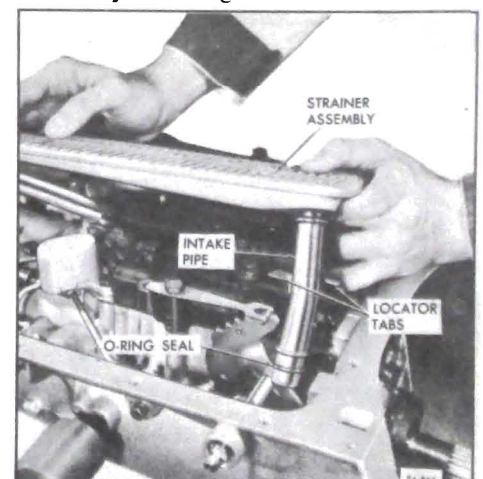

Figure 76-512
8. Remove filter and intake pipe assembly. See Figure 76-512.
9. Remove intake pipe to case "O" ring seal and discard. See Figure 76-512.